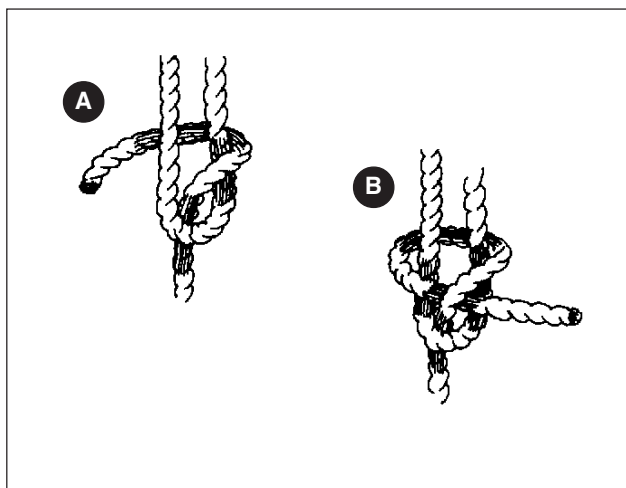

Figure 14.1 Sheet bend (Adapted from Californian Safety Handbook).
1. Follow the steps a – b in Figure 14.1.